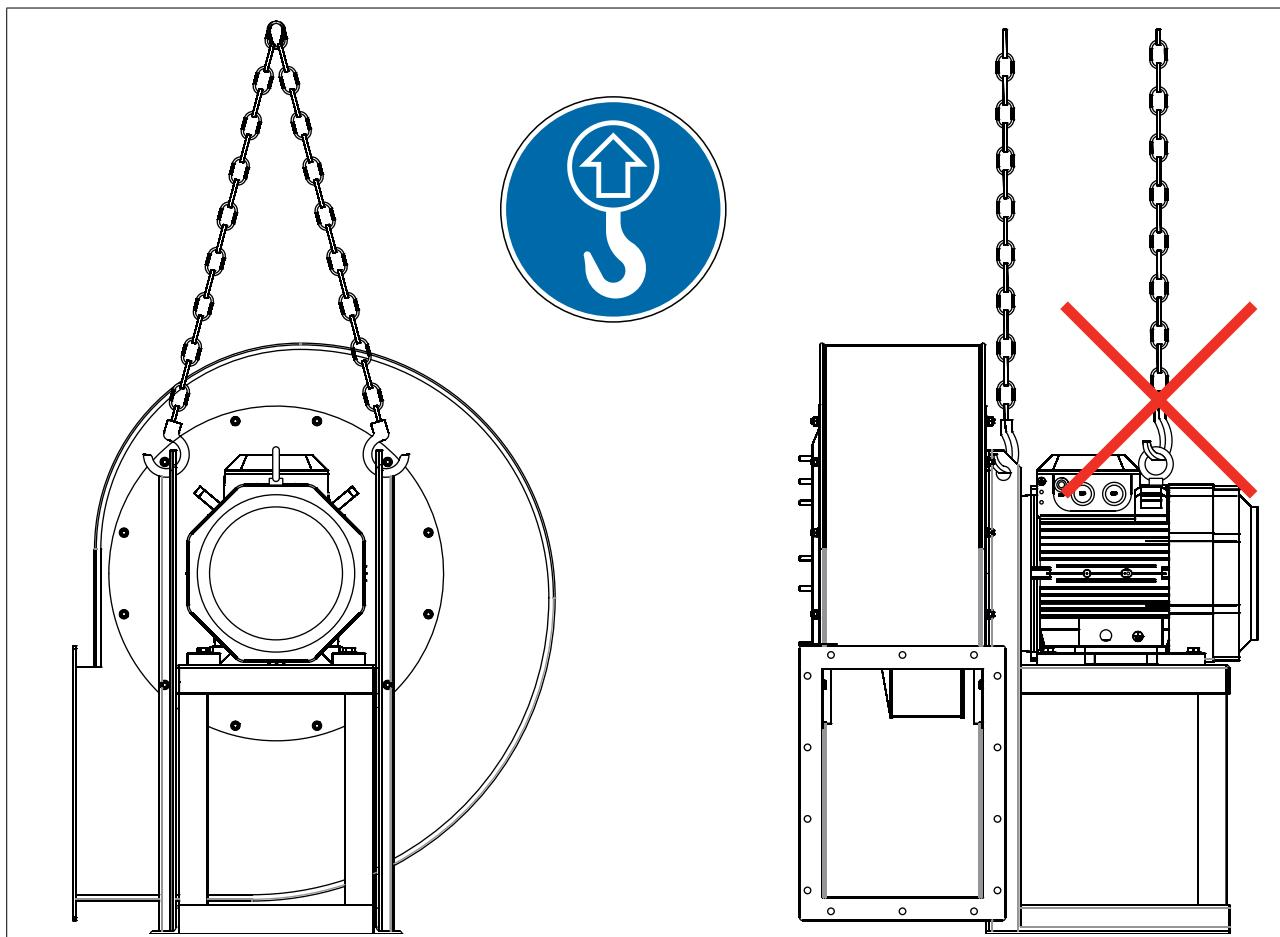

FIG. 11 (Anchoring points for lifting the fan)
IT IS COMPULSORY TO USE SUITABLE MEANS (ROPES, SLINGS, CHAINS, CRANES, FORK LIFT TRUCK, ETC.) IN COMPLIANCE WITH THE REGULATIONS IN FORCE ON SAFETY, USING THE ANCHORING POINTS IDENTIFIED BY THE SIGN SHOWN IN FIG. 11.
4.2- How to lift the fan (FIG. 11)
It is necessary to use the suitable holes created on the fan (usually on the stringers on the base **s. FIG. 11**) and highlighted by means of suitable signs. It is recommended to use a chain sling with 2 or more arms, which shall be selected by the operator entrusted with the handling after analyzing the size and mass of the fan to be lifted and finding the right symmetry degree for a suitable lifting - apply the 818-6:2000+A1:2008 standard. Make sure that the arms that are not used are folded and attached to reduce the risk that they may start swinging and get caught and, therefore, interfere during the lifting phase.
The tips of the hooks should always be facing outwards **FIG. 11**.